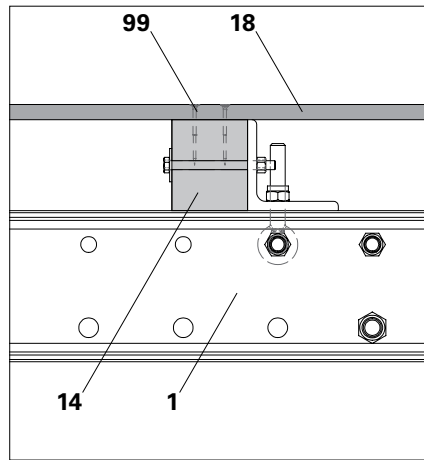

Fig. C3.05
4. Align the multi-layer plywood sheeting and secure on the Enclosure Beam using Torx screws (99).
- (Fig. C3.05 + C3.05a)